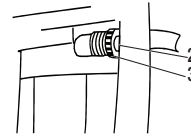

Figure 2
- Attach a garden hose (2) to the drain hose connector (3) on the inside of the dehumidifier. Securely attach the hose to be sure there is no water leak. (Figure 2)